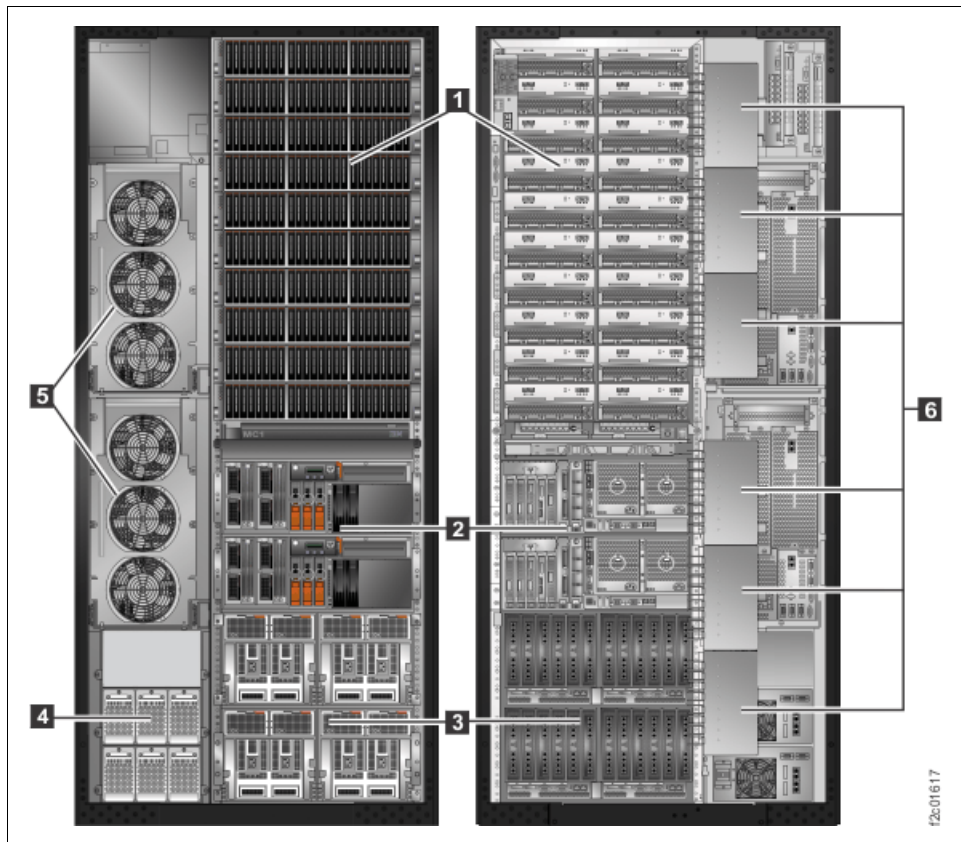

Figure 2-6 DS8800 base frame with covers removed: front and rear
The DS8800 Model 951, shown in Figure 2-6 on page 30, has the following features:
- The DS8800 model 951 can connect up to two expansion frames (model 95E). Figure 2-6 displays a front and rear view of a DS8800 model 951 with the covers off, displaying the indicated components.